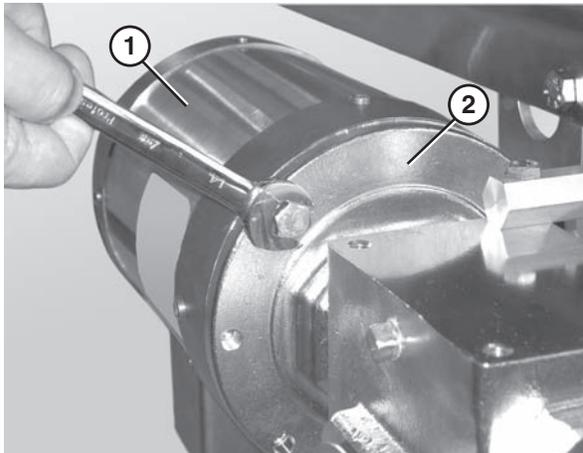

Figure 66
2. Remove the bolts that connect the motor to the drive assembly (**Figure 66**).
3. Remove the motor (**Figure 66, item 1**) from the drive assembly (**Figure 66, item 2**).